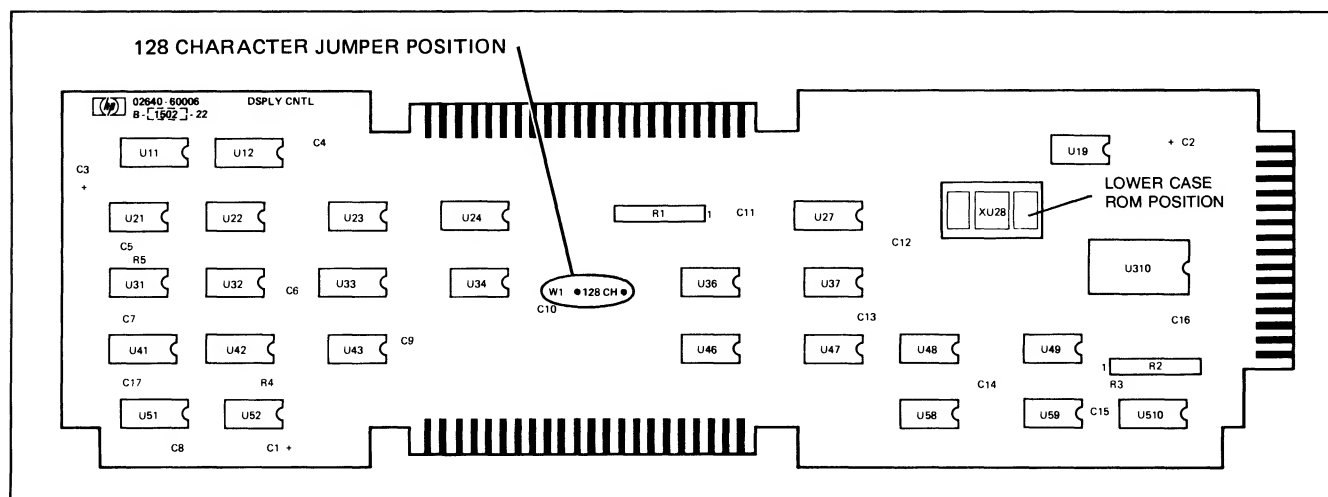

Figure 7-5. Display Control PCA Component Locations
4. ( ) Using figure 7-5 as a guide, locate the 128 CH jumper W1 position and solder in a jumper. (If the board uses a jumper socket or switch, insert a jumper or make the proper setting.)